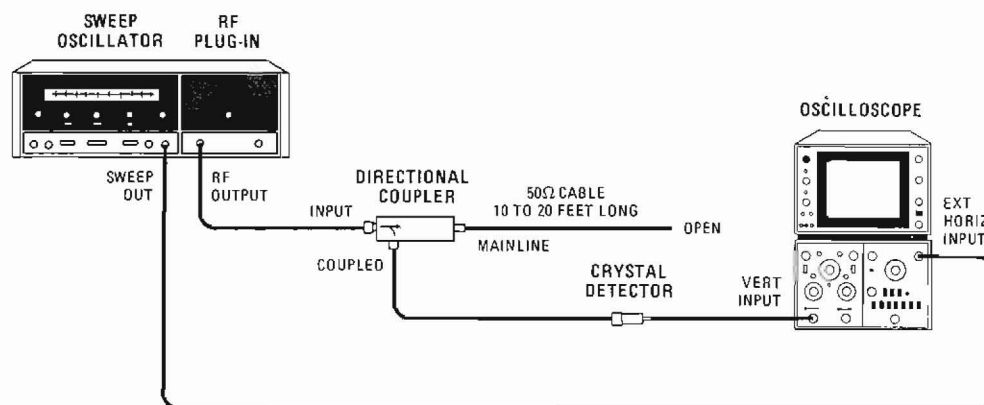

Figure 4-8. Equivalent Source SWR Test Setup
a. Connect equipment as shown in Figure 4-8.